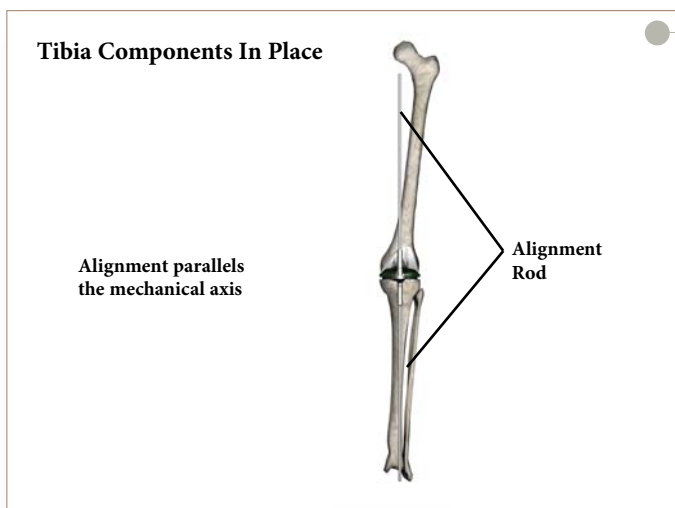

Figure 63
- ▶ Overall leg alignment may be assessed at this time. Re-attach the Alignment Handle to the trial baseplate and insert two Alignment Rods into the handle. The rods should parallel the mechanical axis of the leg in both the coronal (A/P) and sagittal (M/L) views (**Figure 63**).